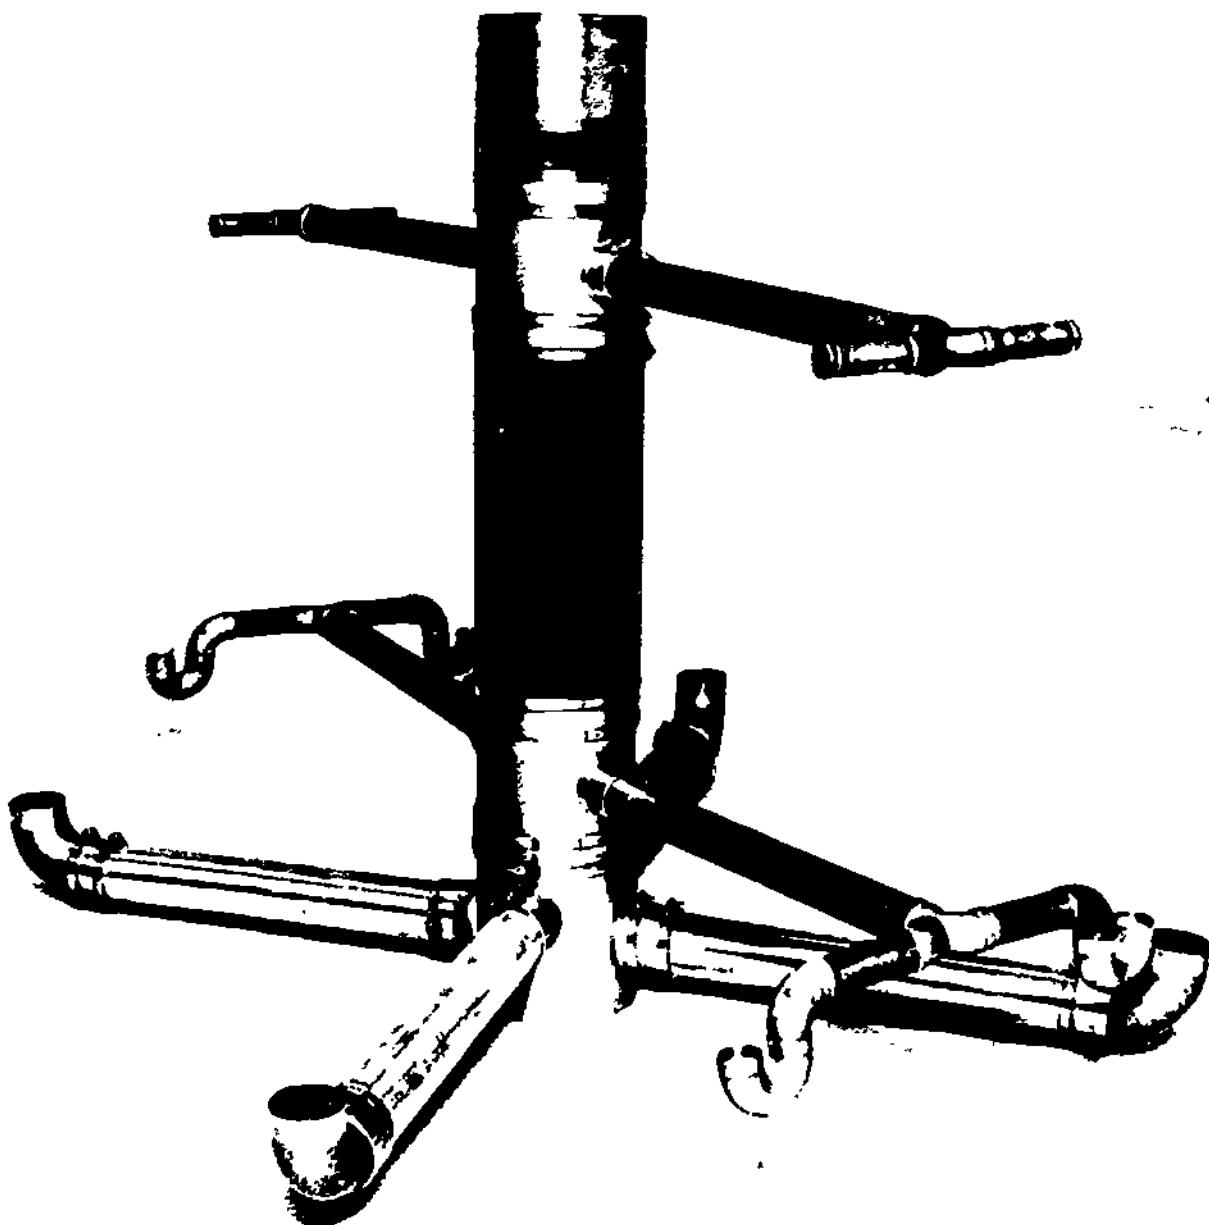

Figure 37-18. IBVS Quad-Cluster Installation with Floor-Mounted Water Closets
58. The IBVS quad-cluster installation with floor-mounted water closets is shown in Figure 37-18.